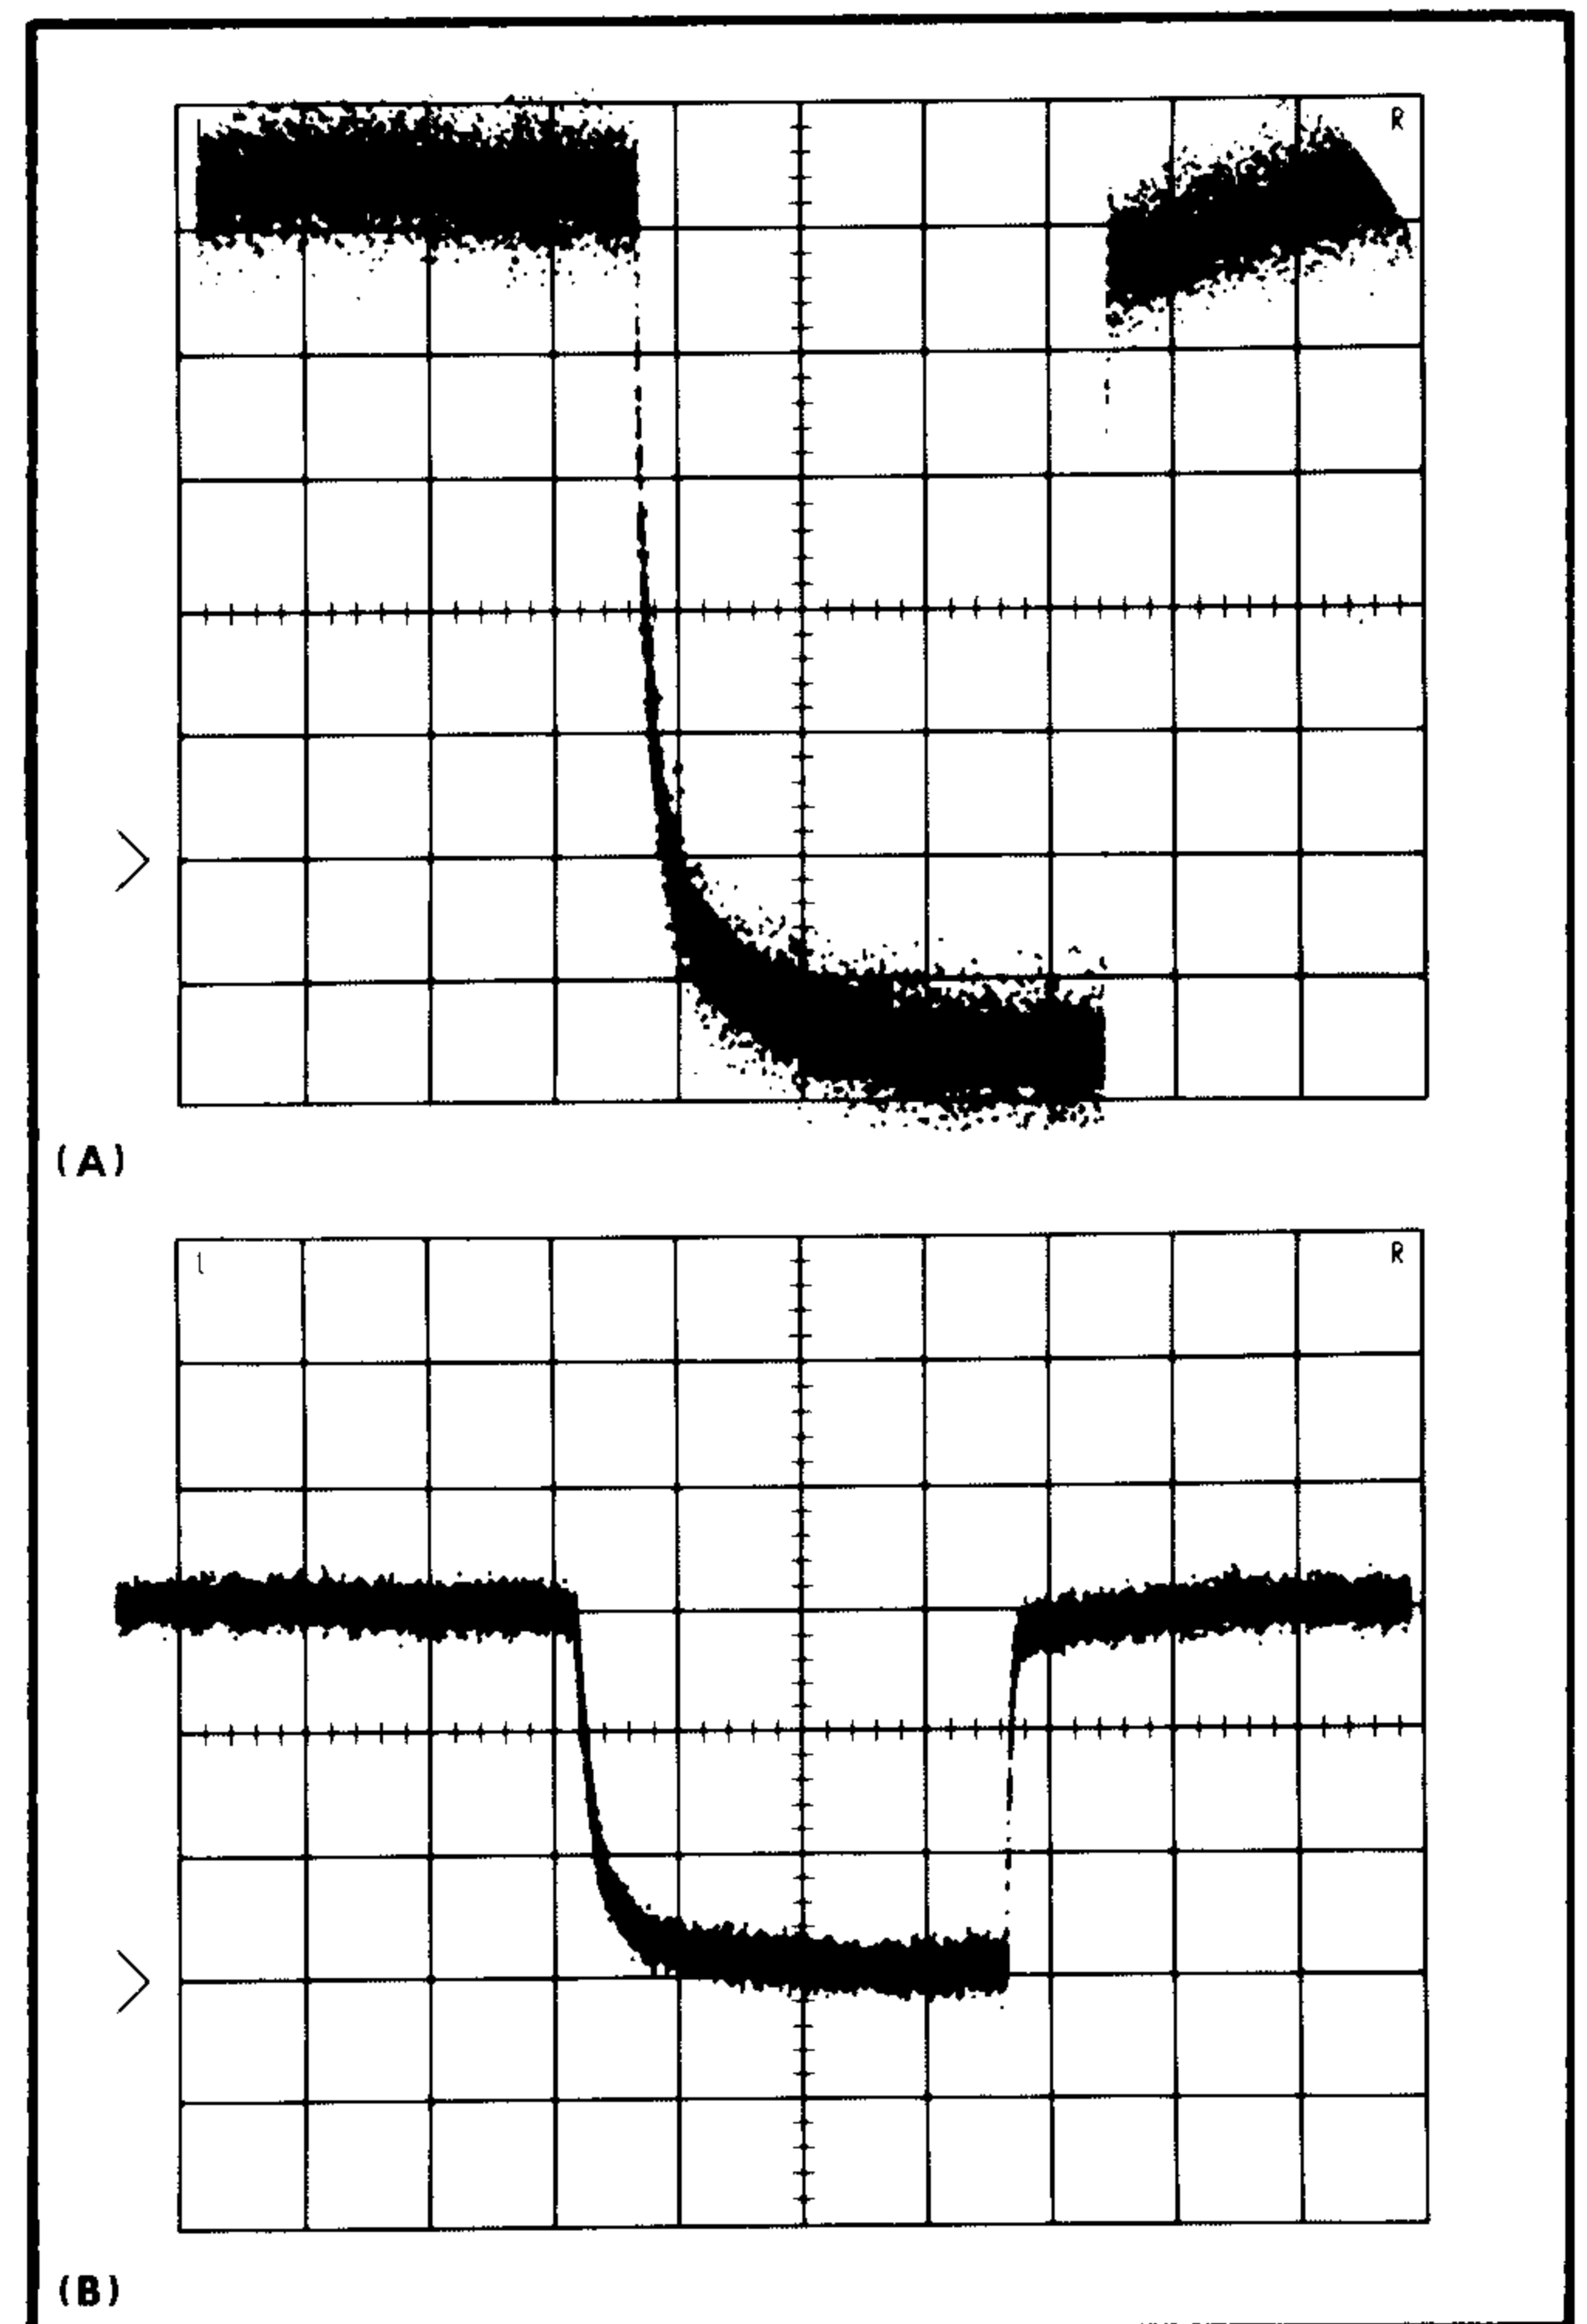

Fig. 6-21. Typical CRT display for Tangential Noise Measurement (A) Unity Loop Gain (B) Smoothed. (One $10\times$ attenuator removed).
- g. Remove one of the 10× signal Attenuators from the signal path and observe the display on the Type 661 CRT. Maximum display amplitude, 8 Div. See Fig. 6-21(A). Divide the display amplitude in millivolts by 10 to calculate noise amplitude.
- k. Remove one 10× Attenuator from the signal path and observe the display. See Fig. 6-21(B). Maximum display amplitude, 4 DIV. Divide the display amplitude in millivolts by 10 to calculate noise amplitude.